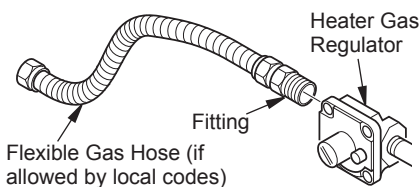
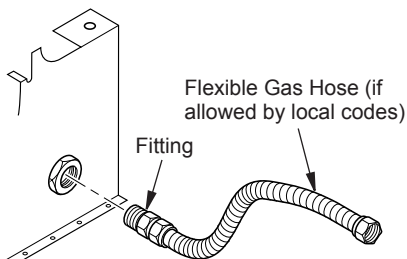

Figure 11 - Attaching Flexible Gas Hose to Heater Gas Regulator (Variable Manually-Controlled Models Only)
Figure 12 - Attaching Flexible Gas Hose to Heater (Remote-Ready Models Only)
1. Apply pipe joint sealant lightly to male threads of gas fitting (not provided). For Variable Manually-Controlled Models connect approved flexible gas hose to gas regulator of heater (see Figure 11, page 13). For Remote-Ready models connect approved flexible gas hose to gas control fitting in heater (see Figure 12, page 13).